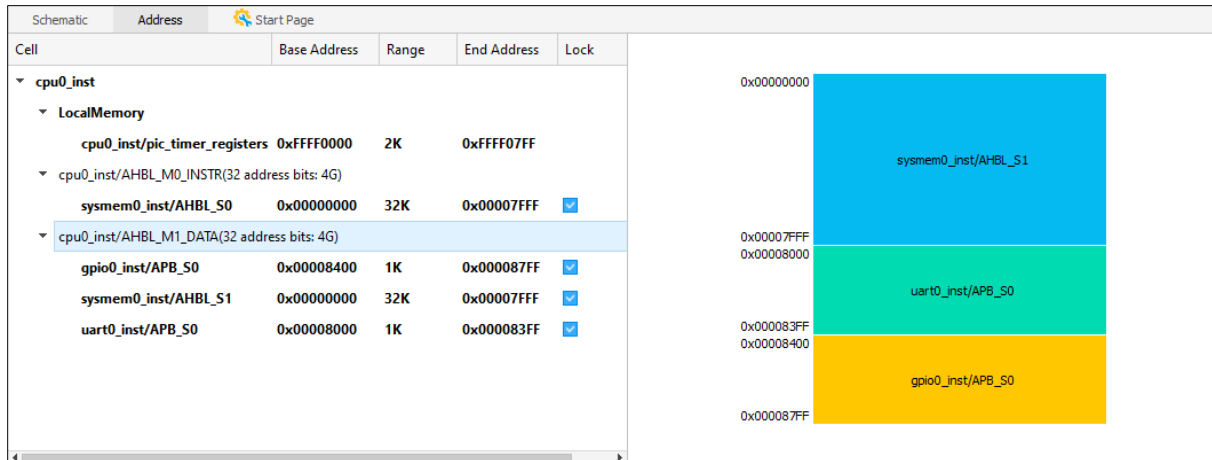

Figure 2.107. Address View
1. In the Propel Builder main window, click the Address tab. The Address view (Figure 2.107) shows.